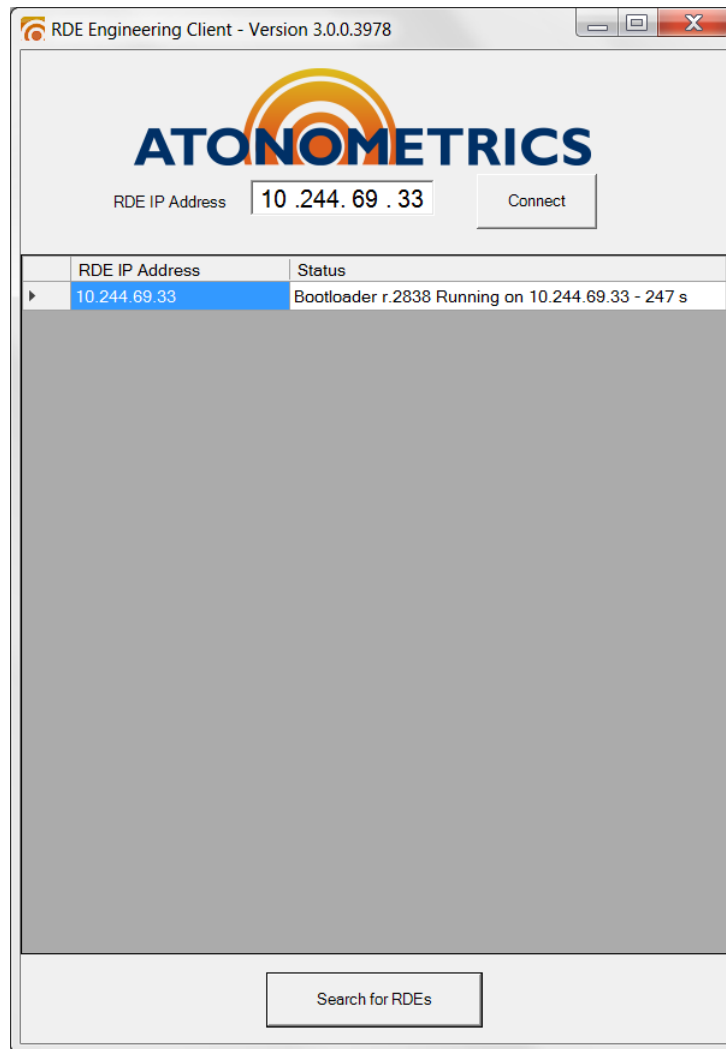

Figure 9-20: Connection screen detecting RDE in bootload state ready for firmware update
- If the RDE is detected, a message indicating that it is running the Bootloader (firmware update program) will be displayed, as shown in Figure 9-20, along with the RDE IP address.